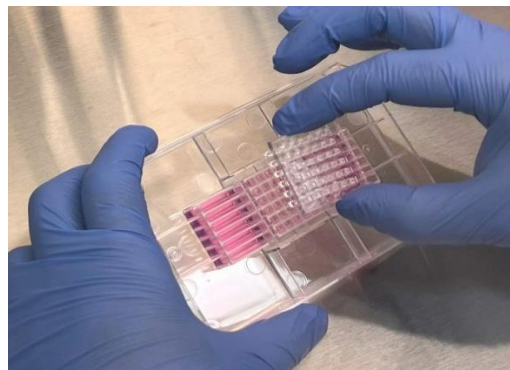

Figure 4. Sandwiching the 36PillarPlate with cells/spheroids onto the perfusion wells of the 36PerfusionPlate for dynamic cell culture.
5. Sandwich the pillar plate with cells/spheroids onto the perfusion plate and cover the sandwiched plates with a lid (**Fig. 4**).